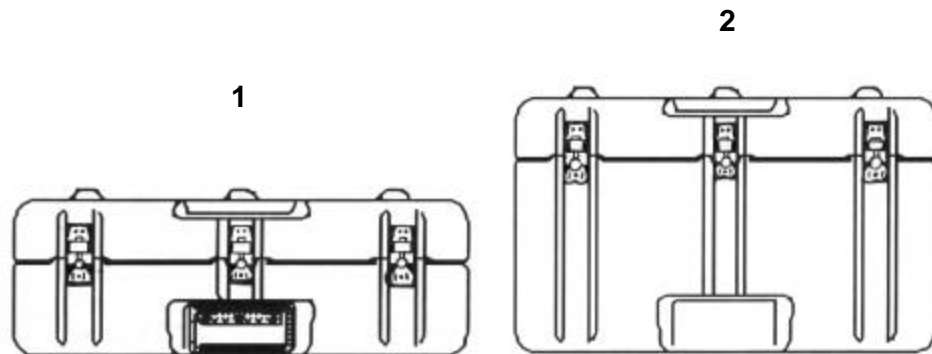

Figure 1-9. Containers
Containers. The GLPS is stored and transported in watertight containers (Figure 1-9) made of rugged, synthetic material. Plastic foam inserts protect the equipment during transport. Two sizes of containers are provided with the system. The battery charger and winterization kit containers (1) and the gyroscope and theodolite container (2) are constructed of the same materials and equipped with a pressure relief valve and carrying handles.